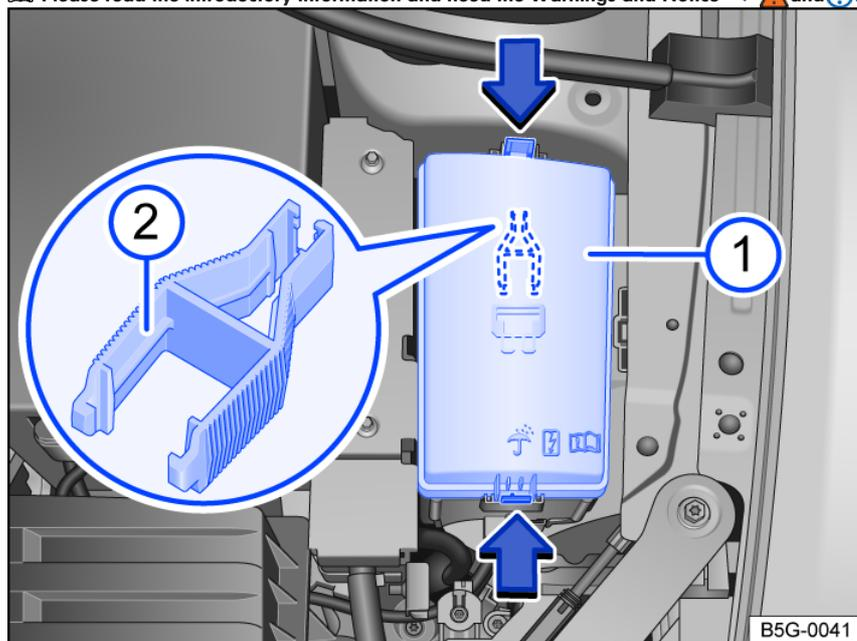

Fig. 174 In the engine/motor compartment: fuse box cover ① with plastic pliers ②.
- Press the locks in the direction of the arrow *fig. 174* (arrows) to release the fuse box cover *fig. 174* ①.
There are plastic pliers for removing fuses on the inside of the fuse box cover In the engine/motor compartment *fig. 174* ②.